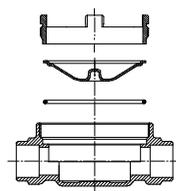

Fig. 1
- 1.5. Unscrew the threaded ring with the installation wrench from the FMT (figure 1). The threaded ring will not be used again! Remove the blind plate and the old O-ring and clean dirt from the FMT, particularly of course on the sealing surface of the O-ring.